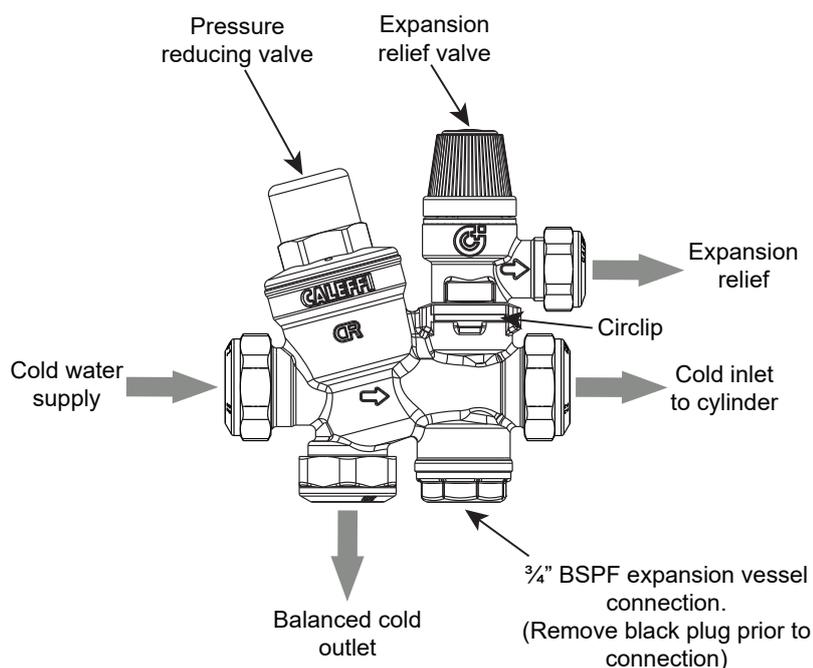

Figure 4-1: Cold water inlet manifold
A balanced cold water connection is provided on the inlet manifold. Refer to Figure 4-1. This should only be used to provide balanced cold supplies to shower valves and mixer taps. If the balanced cold water outlet is not required, blank off this port.
6. Connect the expansion vessel directly to the ¾" BSPF connection in the inlet valve manifold body, after removing the black plastic plug. See Figure 4-1 and Section 4.4.
The preferred method of connection is to hard pipe the expansion vessel directly to the 3/4" BSPF connection in the inlet valve manifold body using 22mm diameter pipe. Refer to Figure 4-1.
1. Remove the black plastic plug from the inlet manifold body (refer to Figure 4-1).